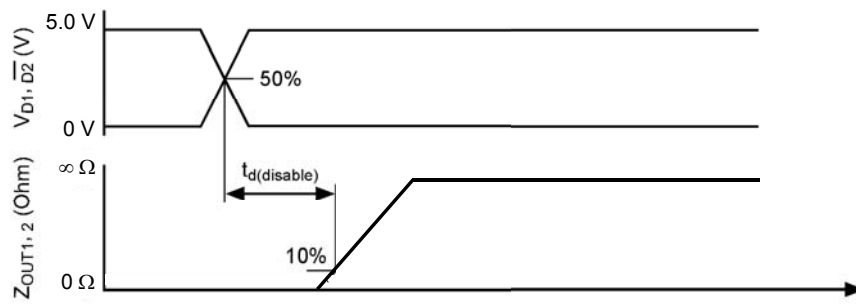

Figure 3. Disable Delay Time
- Disable Delay Time is the time duration from the midpoint of the D (disable) input signal to 10% of the output tri-state response. See Figure 3, page 8.